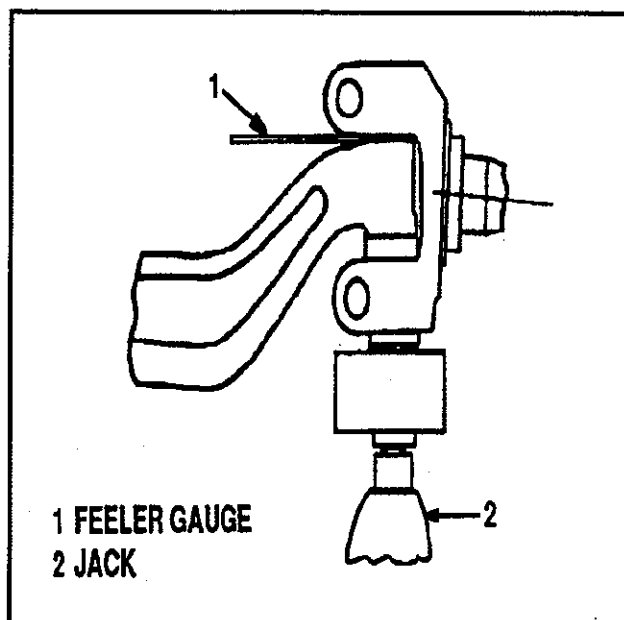

Figure 16—Spindle Vertical End Play Check
5. Raise the knuckle so that all clearance is taken up between the lower yoke, thrust bearing and lower face of the axle center end. (See Figure 16—Spindle Vertical End Play Check.)